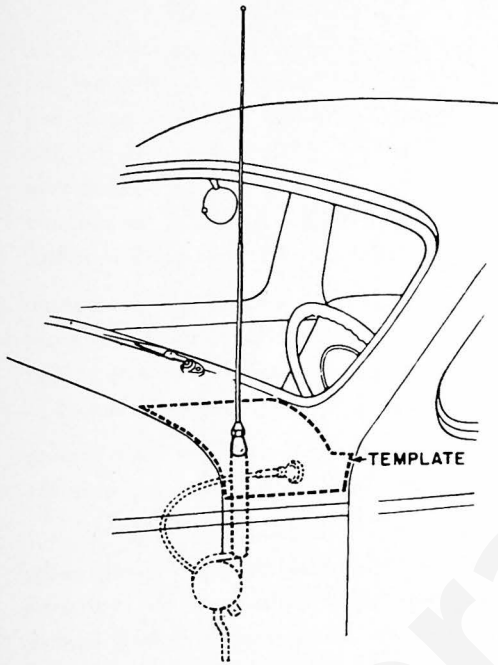

FIG 1
THE ANTENNA IS MOUNTED THROUGH THE COWL ON THE DRIVER'S SIDE WITHOUT REMOVING THE COWL TRIM PANEL (AS SHOWN IN FIGURE 1).
1. A paper template is provided in the package for locating the hole to be drilled through the cowl for the antenna. Place this template on the cowl as shown in Figure 1 and fit the cut-out in the template around the break at the base of the windshield pillar toward the outside of the car. The opposite edge of the template will then line up with the hood openings. (It is important that the template be accurately located in order to assure the proper fitting of the antenna.) Accurately center punch the hole location as shown on the template. Drill a $1/8$ " pilot hole and enlarge with a $3/4$ " hole saw.